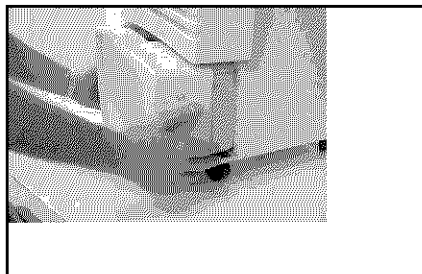

Figure 3
2. Grab handle and slide bucket away from unit. See Figure 3.
Note: When using either of the above direct draining methods, you must first drill a 3/8" (10 mm) hole in the center of the bucket connection. (For ease of drilling use locating mark to center drill bit for hole (Figure 3).) This will allow water to flow freely through the connection. To reseal the hose connection to the bucket, use any standard hose end cap. **The hose cap cannot be used to reseal the hole.**